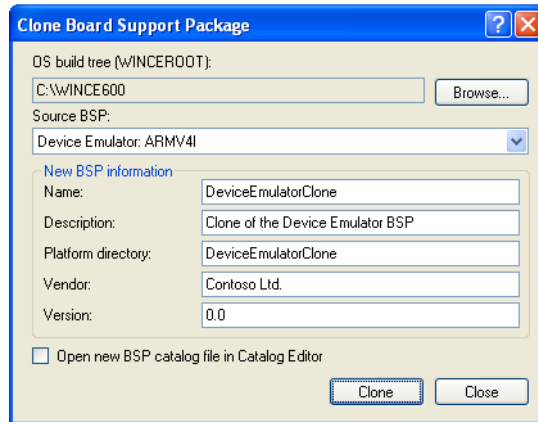

Figure 5-10 BSP cloning information
3. Under New BSP Information enter the information shown in Table 5-12 (see also Figure 5-10):